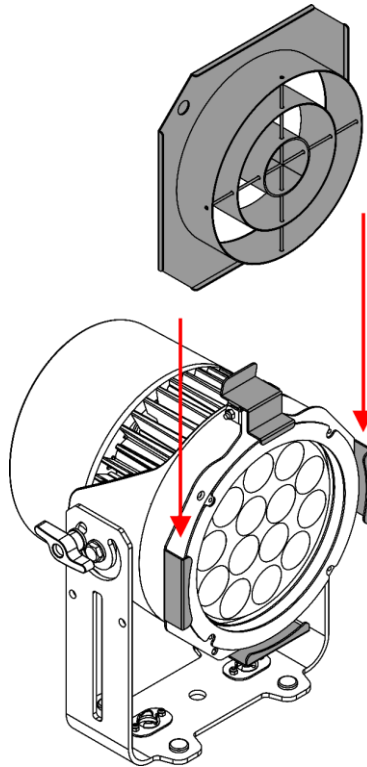

Fig. 13
- 03) Insert the Top Hat into the Accessory Holder (Fig. 13).